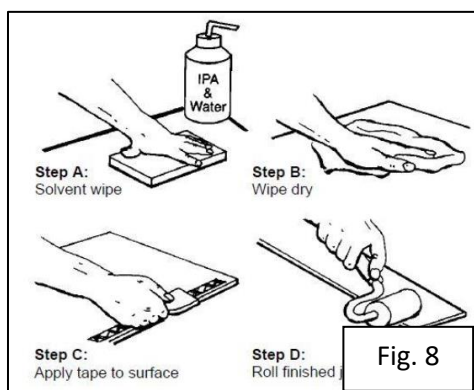

Fig. 8
- B. To obtain optimum adhesion, the bonding surfaces must be stable, clean and dry. Use isopropyl alcohol to clean the window. (Figure 8 - Steps A and B)